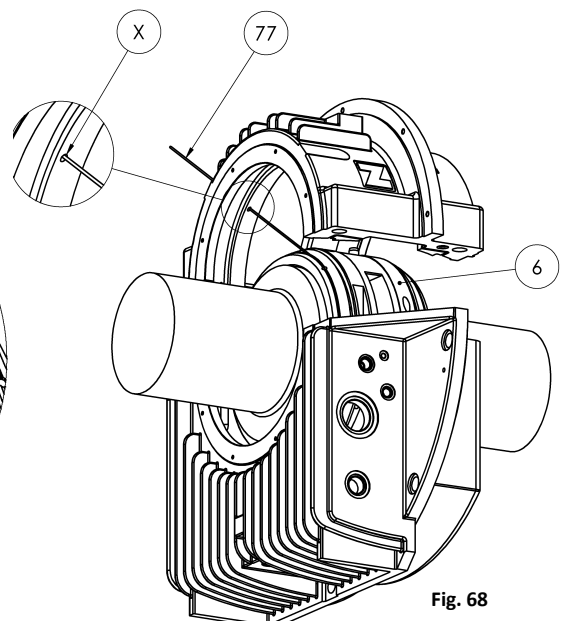

Fig. 68
- After mounting the top half of the shell (6), Insert the thermo-sensor cable (77) into the corresponding channel in the upper half of the shell (fig. 68).
- Move the housing until close to the shell. Insert the cable of thermo-sensor through the tapped hole (X) on the top half of the housing.
- Screw the thermo-sensor head block (72) with cooper ring (73) or by a cable gland into the tapped hole (X). Use a Teflon tape or sealant compound